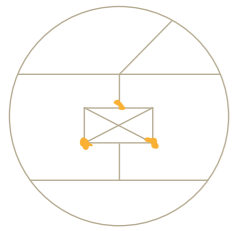

Figure 15: Joint princip - Glued joint across the centre line.
- ❗ To glue the end joint, apply the glue to the end of the plank and to the tongue that has already been glued down – break off the line of glue 5-10 mm from each plank joint. Never apply glue to the long sides of floor planks. See figure 15.